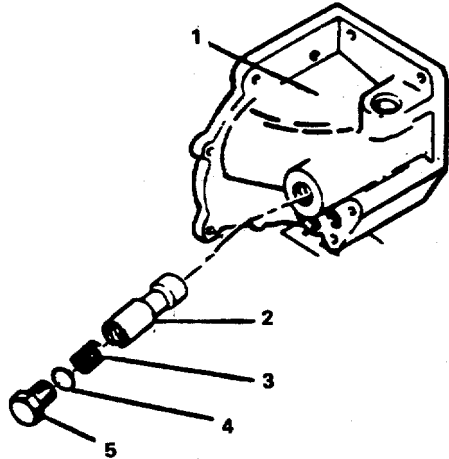
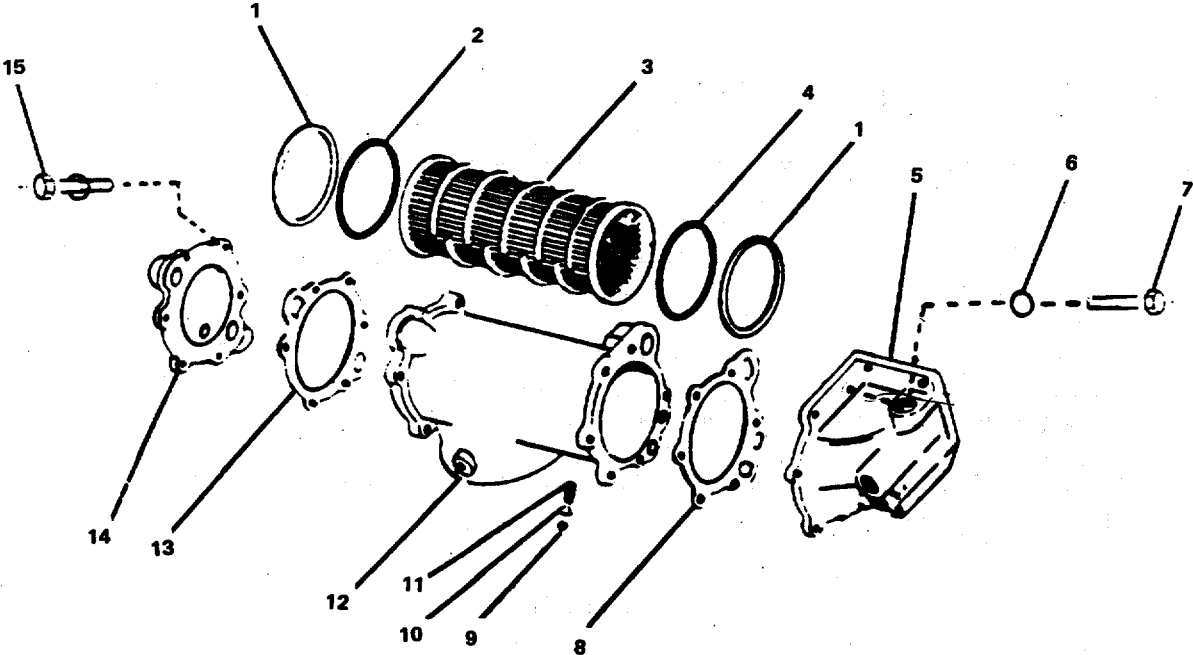
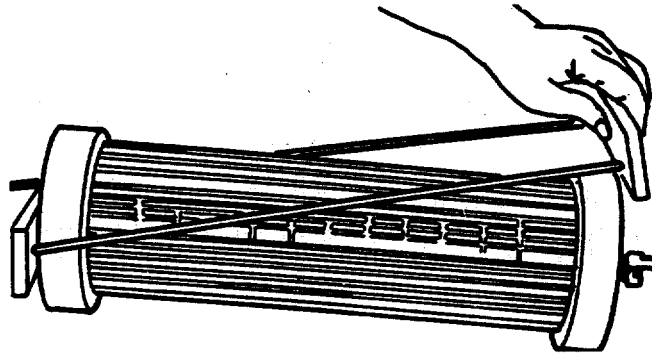

FIGURE 3-3. Oil Cooler Pressure Regulator.
FIGURE 3-4. Oil Cooler/Filter - Filter Element Removed.
FIGURE 3-5. Tube Bundle Tester.
The Full Flow Cooling (FFC) engine has an oil pressure regulator that is part of the oil cooler and is located in the front support of the cooler (FIGURE 3-3). The regulator controls the oil pressure before the oil flows through the oil filter.
- a. Remove the regulator machine thread plug (5), spacer ring (4), and helical compression spring (3).
- b. Remove the regulator plunger (2) from the cooler support (1).
- c. Remove the cooler support (5, FIGURE 3-4) and cover (14) from the housing (9) by removing lockwashers (6), hexagon head capscrews (7), and assembled washer screws (15).
- d. Remove the lube oil circle cover gaskets (8, 13) and retaining rings (1). Discard the gaskets.
- e. Remove and discard the preformed packings (2, 4). Be careful not to damage the fluid filter element (3) when removing packing.
- f. Remove the element (3) cooler core from housing (12). Remove retainer plug (9), valve disk (10), and helical compression spring (11) from the housing (12).
- a. Check the regulator plunger (2, FIGURE 3-3).
- (1) Inspect the plunger (2) for scratches or other damage.
- (2) If scratch is deep enough to be felt with a fingernail, replace the plunger.
- (3) Inspect helical compression spring (3) for damaged or broken coils. Replace if damaged.
- (4) Use a valve spring compressor to compress the helical compression spring (3) to 1.820 inches (46.23 mm). The force required must be between 22 and 26 pounds. Replace if necessary.
- b. Clean and inspect the cooler element (fluid transmission center) (3, FIGURE 3-4) as follows:
- c. Clean the housing (12), support (5); and cover (14) with cleaning solvent.
- (1) Check the cooler housing (12, FIGURE 3-4) for cracks, damage and corrosion.
- (2) Check the support (5) and cover (14) for cracks, damage, and corrosion.
- (3) Replace housing (12), support (5), or cover (15) if damaged.
- e. Using the tube bundle tester (FIGURE 3-5), test the cooler element for leaks as follows:
- (1) Install the end plate to each end of element.
- (2) Position the sliding plate of the fixture so that the fixture will fit over the element and end plates (FIGURE 3-5) .
- (3) Position the element into the fixture. Position the fixture so that the air connection fitting goes through the notch in the fixture plate. Install locking clips into the bars of the fixture.
- a. Place element (3, FIGURE 3-4) into housing (12). Place housing (12) with the element on flat workbench.
- c. Using a valve spring compressor, compress helical compression spring (11, FIGURE 3-4) to 1.820 inches (46.23 mm). The force required must be between 22 and 26 pounds. Replace if necessary.
- d. Install valve disk (10) and helical compression spring (11) and secure with retainer plug (9).
- e. Apply a coat of clean lubricating oil to new preformed packing (2). Use cooler "O" ring mandrel (ST-1218 for 5.0 inch element diameter or ST-1223 for 4.0 inch element diameter) to push the preformed packing (2) into the housing. Hit the mandrel with a plastic hammer until the mandrel is against the element and housing.
- f. Install retaining ring (1). Ensure that the part number on the ring faces out.
- g. Install a new gasket (13) and the cover (14) to the housing (12). Tighten the assembled washer screws (15) to 30 to 35 ft-lb (40.06 to 47.4 N•m) torque.
- i. Repeat Steps (d), (e), and (f) to install the packing (4, FIGURE 3-4) and retaining ring (1).
- j. Install a new gasket (8) and the support (5) to the housing (12). Tighten the hexagon capscrews (7) and lockwashers (6) to 30 to 35 ft-lb (40.6 to 47.4 N•m) torque.
- n. Install the plunger (2, FIGURE 3-3), compression spring (3), spacer (4), and machine thread plug (5) into the support housing (1) and tighten the plug to 20 ft-lb torque.